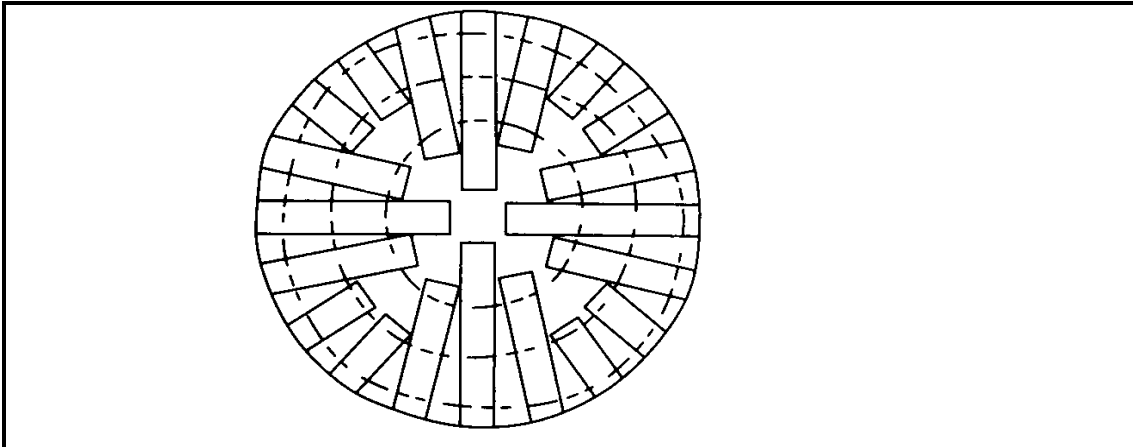

FIGURE 4.3
- 4.3 Answer the following questions with regard to the conversion method in FIGURE 4.3.